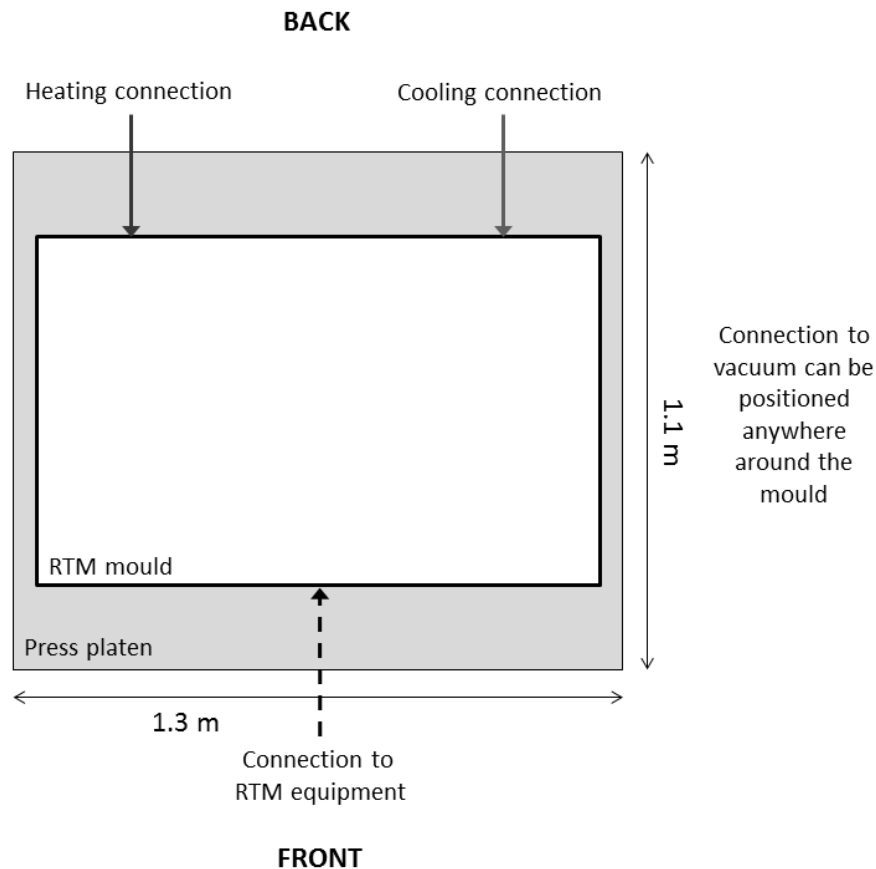

Figure 2: Desired positions of the various connections between the mould and the press
- Mould is connected to the NRC's temperature controller via a single point of connexion. The connection of the heating of the mould to the press should be localised at the back of the mould, on the left side (see Figure 2). The connection must be done via "Harting HAN-12HSC-M 10A 250V" plug. NRC's press allows 24 heating zones, with a power of 6000 W per zone at 240 V CA – 12 zones for the punch and 12 zones for the cavity. Thus, there are 24 possible connections for the power and 24 possible connections for the thermocouples. Electrical connectors are supplied by the Contractor.
- The cooling system connection for each half of the mould should be located at the back of the mould, preferably on the right side (see Figure 2).
- A single connection point between the injection equipment (Resin Transfer Moulding equipment) and the mould should be used. Ideally, this connection is localized on the front of the mould (see Figure 2). Note that the press platens don't allow a connection from the top of the mould (top or bottom, for central injection).